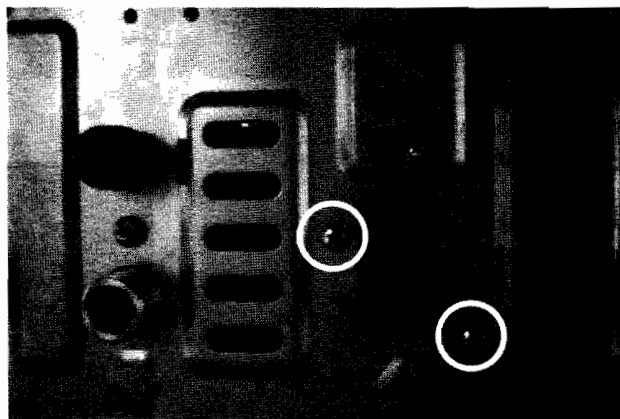

Figure 42
- ☐ Remove the gas valve's two securing screws and washers from the underside of the boiler (*figure 42*).